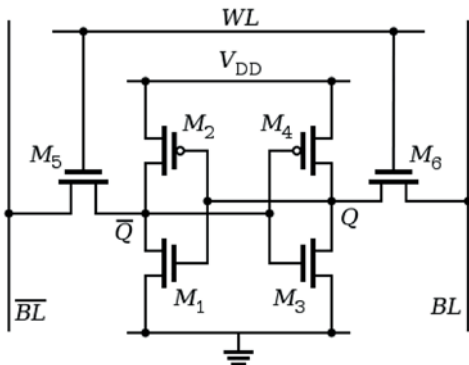

Figure 1: SRAM Cell
In SRAM, the cell is implemented using six MOSFET transistors; see Figure 1. This is essentially a flip-flop circuit and its state (Q) is what holds the data bit.